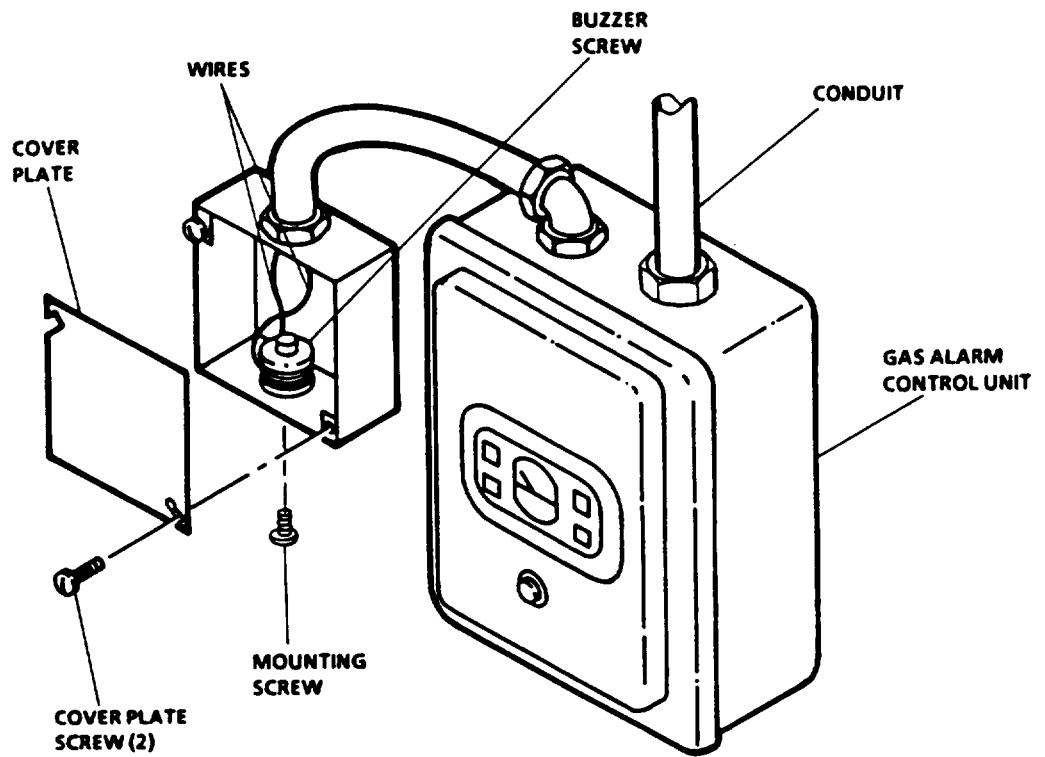

Figure 4-21. Gas Alarm Buzzer
2. Remove gas alarm buzzer. See figure 4-21.
2. Install gas alarm buzzer See figure 4-21.